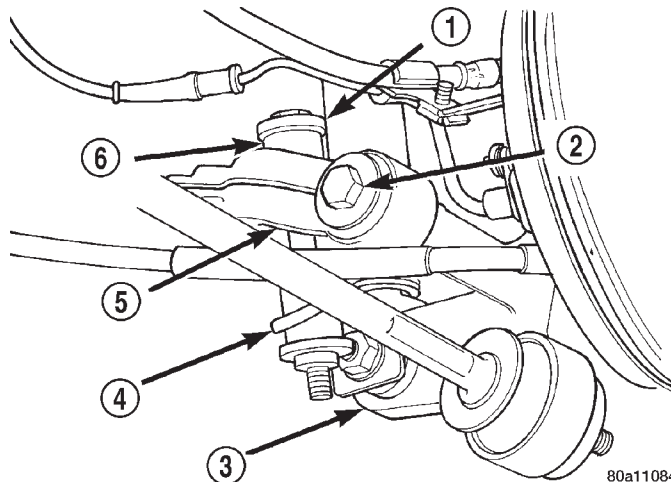
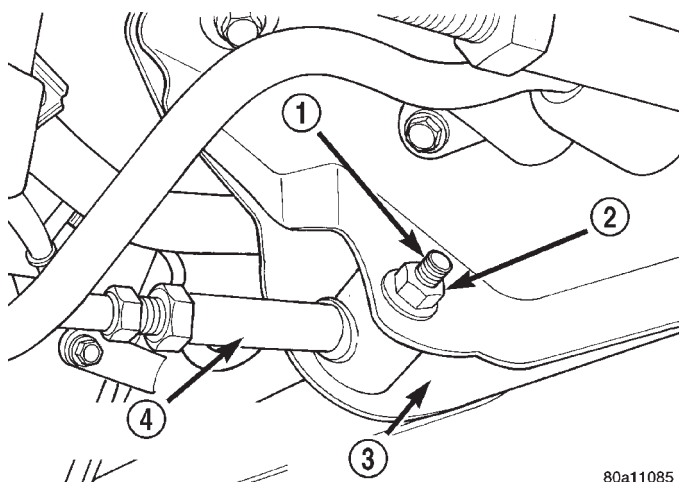

Fig. 31 Stabilizer Bar To Lateral Link Attachment
Fig. 32 Lateral Link Attachment To Rear Suspension Crossmember
(2) Remove the rear wheel and tire assembly from the side of the vehicle requiring lateral link removal.
(3) Remove the rear stabilizer bar attaching link from the forward lateral link (Fig. 31).
(4) Remove the nut, bolt and washer (Fig. 31) attaching the forward lateral link to the knuckle.
(5) Remove the nut and bolt attaching the lateral link to the rear suspension crossmember (Fig. 32).
(6) Remove the forward lateral link from the vehicle.
(1) Install the lateral link and the attaching nut and bolt at rear suspension crossmember (Fig. 32). **The forward lateral link is to be installed with the cup in cast portion facing down and toward rear knuckle (Fig. 31).**
(2) Install the lateral link and attaching nut, bolt and washer at rear knuckle (Fig. 31).
(3) Torque both lateral link attaching bolts to 108 N·m (80 ft. lbs.).
(4) Install the rear stabilizer bar attaching link, isolator bushings and attaching nut on the forward lateral link (Fig. 31). Tighten the attaching nut to a torque of 35 N·m (26 ft. lbs.).
(5) Install wheel and tire assembly on vehicle. Tighten the wheel mounting stud nuts in proper sequence until all nuts are torqued to half specification. Then repeat the tightening sequence to the full specified torque of 135 N·m (100 ft. lbs.).